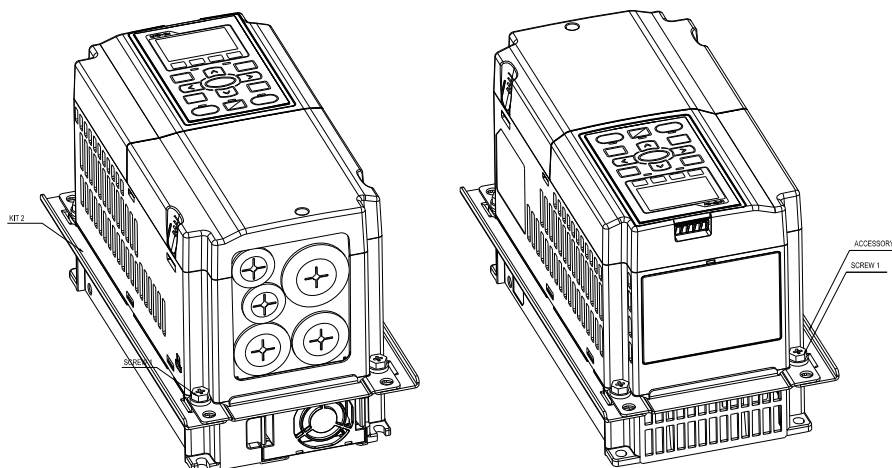

Figure 2
2. Fasten screw\*2(M6) and accessory 2&3. Screw torque: 25~30 kg-cm / [21.7~26 lb-in.] / [2.5~2.9 Nm] (figure 2)